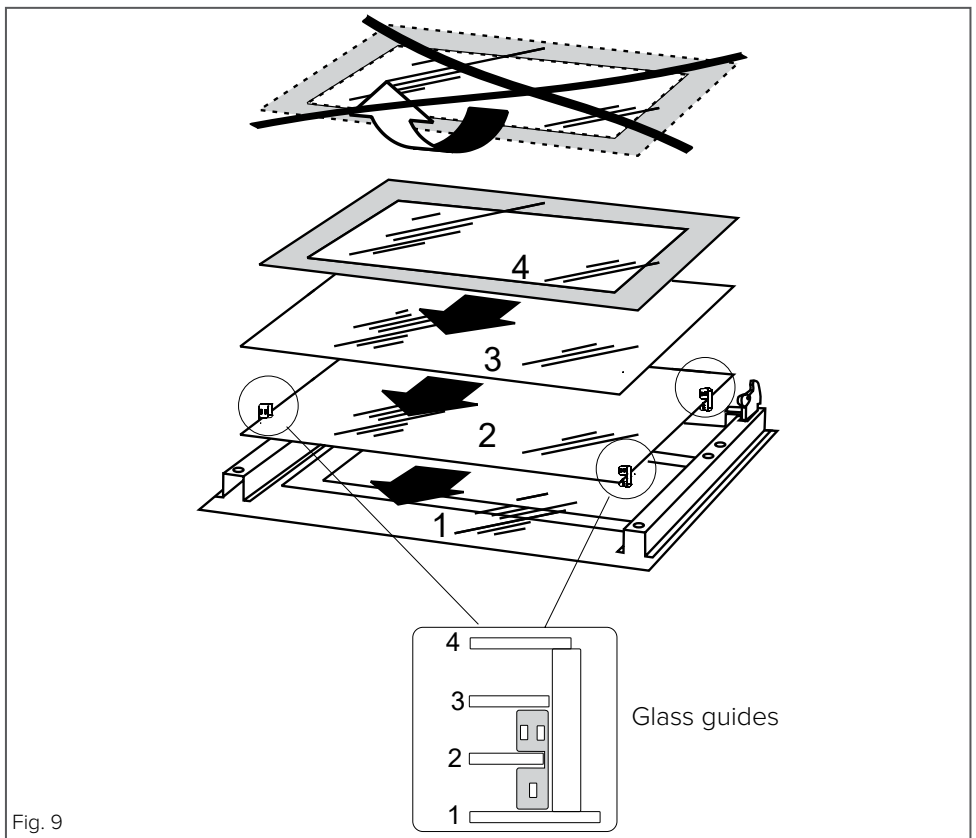

Fig. 9
- There are a number of rubber guides attached to the inner panes and these must be returned to their original positions when reassembling the door. Fig. 9 shows one of these guides and the position on and around the inner glass.